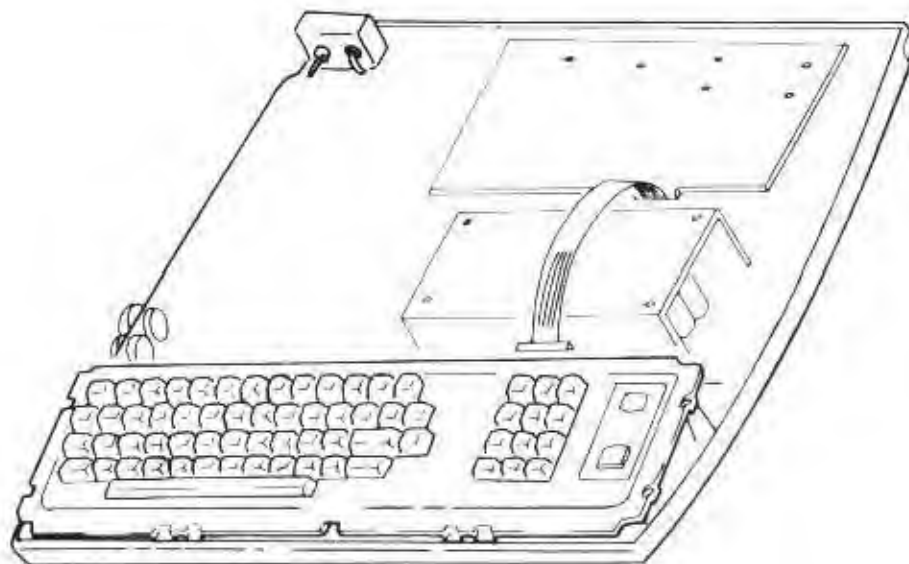

Figure 1. Keyboard Removal
3. Unplug the ribbon cable going to the main circuit board and the grounding spade lug from the left end of the keyboard. See Figure 1.